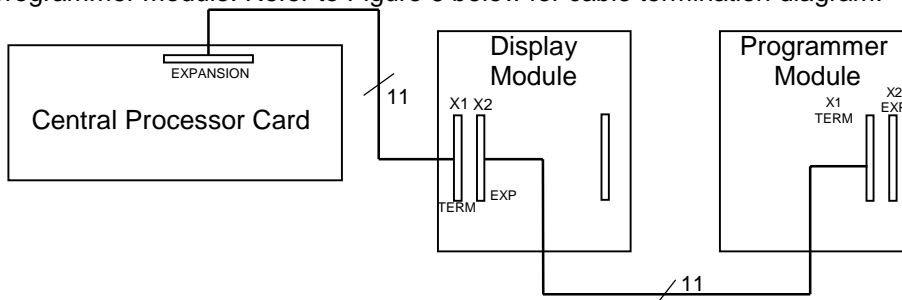

Figure 6 Cable Terminations between Modules and Central Processor Card
- (f) Re-connect the cable loom to the socket (labelled Term) on the display or programmer module. Refer to Figure 6 below for cable termination diagram.